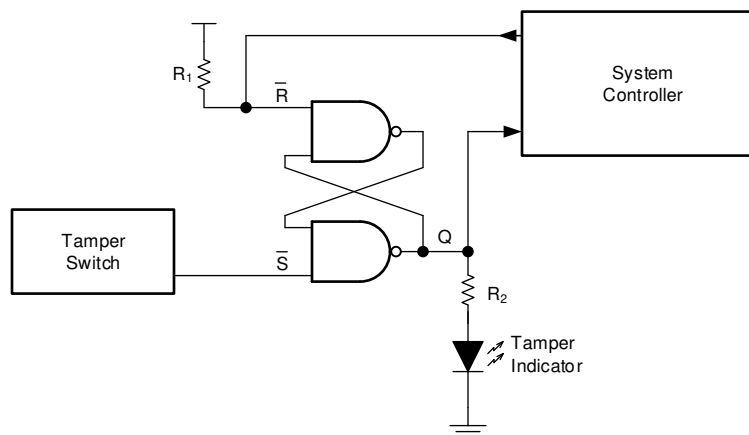

Figure 8-1. Typical Application Block Diagram
Figure 8-1 shows how the SN54SC4T00-SEP is used to up-translate a 1.8-V signal to 3.3 V to drive an LED in this application. The SN54SC4T00-SEP does not limit the output current, so an added output resistor is used to provide the appropriate current limiting. The resistor value (R) should be determined by the LED's forward voltage ( $V_D$ ) and the desired forward current through the LED ( $I_D$ ) using this equation:  $R = (V_{CC} - V_D)/I_D$ .